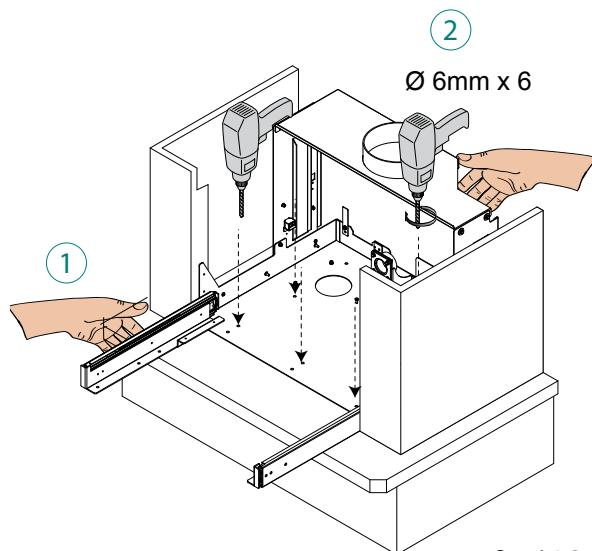

fig. 6.1.8
- 8) Place the load-bearing structure of the insert at the designated point of installation (1), mark and drill 4 Ø 6 holes for fastening (2) - use the base of the structure as a template - then drill using a dia. 6 mm drill bit (fig. 6.1.8)